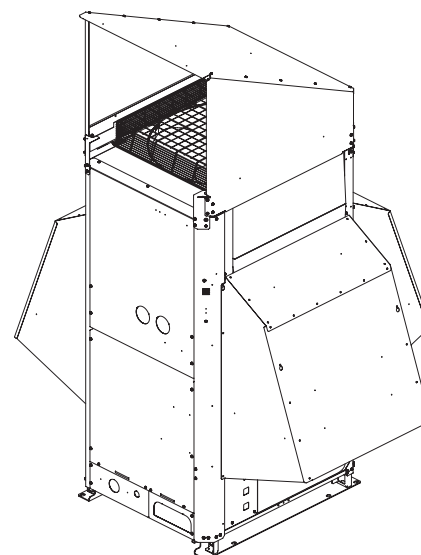

Fig. 2-17
In locations where wind-blown snow can be a problem, snow-proof vents should be fitted to the unit and direct exposure to the wind should be avoided as much as possible. (Fig. 2-17)
- a) The platform should be higher than the maximum snow depth. (Fig. 2-17)